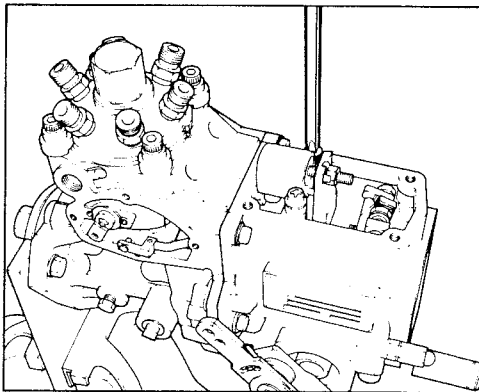

FIGURE 2-215
- (32) Secure excess fuel device with screws and lockwashers. (See figure 2-215). Tighten screws to required torque per Torque Chart, Section XI.